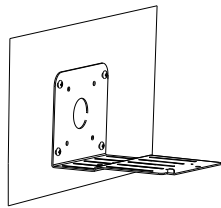

Figure 3-3
3. Align mounting bracket with hole; tighten screws. (Figure 3-3)